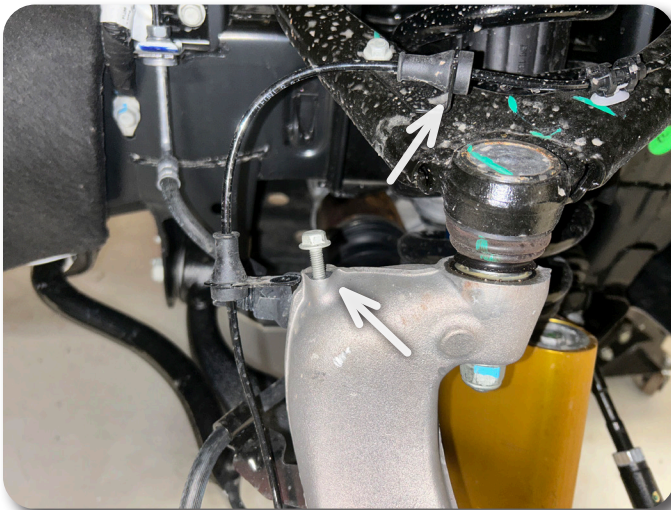

Figure 2
4. Disconnect the ABS wire from steering knuckle and upper control arm to gain additional slack. Retain OE hardware from the steering knuckle for later installation **Figure 2**